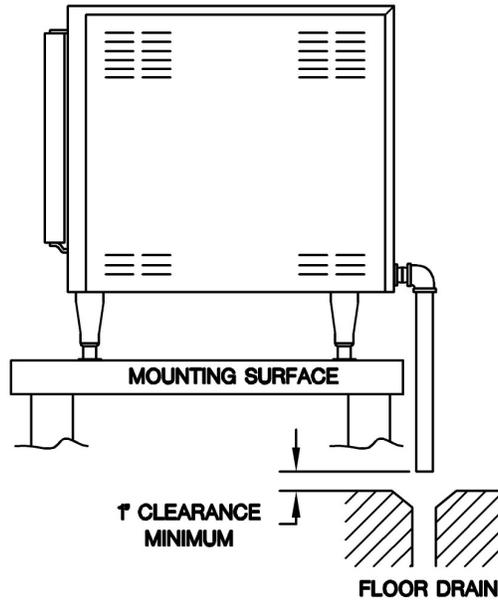

Figure 3-5
3. Free air venting requires a minimum 1" clearance between the end of the drain line and the top of the floor drain. See Figure 3-5.
11. Refer to Figure 3-5: Connect the drain to the steamer as described: